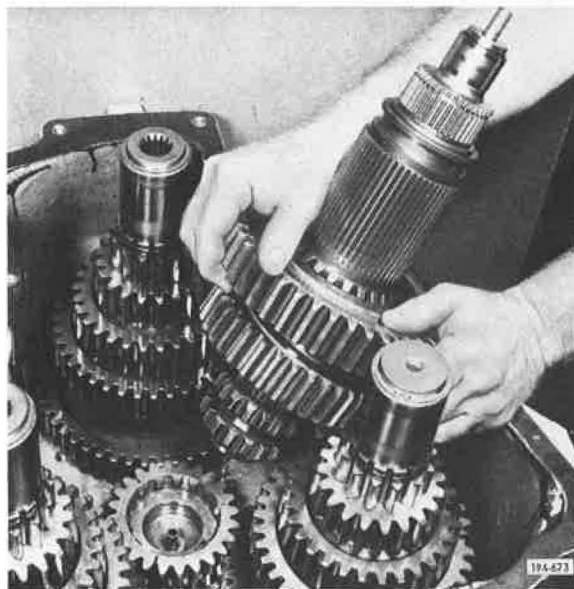

Figure 5-959. Installing Mainshaft
20. Install front mainshaft into front case. Advance mainshaft all the way forward to completely seat spigot bearing into main drive pinion. See **Figure 5-959**.